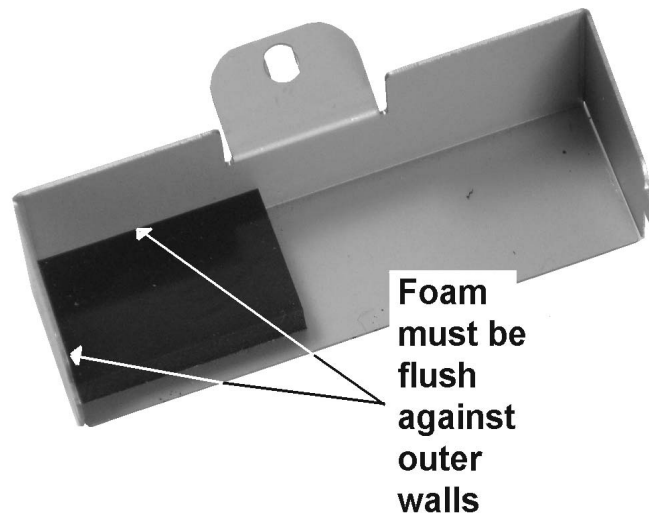

Figure 1: Installing the Foam Strip in the SD Card Bracket
3. Remove the adhesive backing from a foam strip and place it in the bracket as shown in Figure 1.